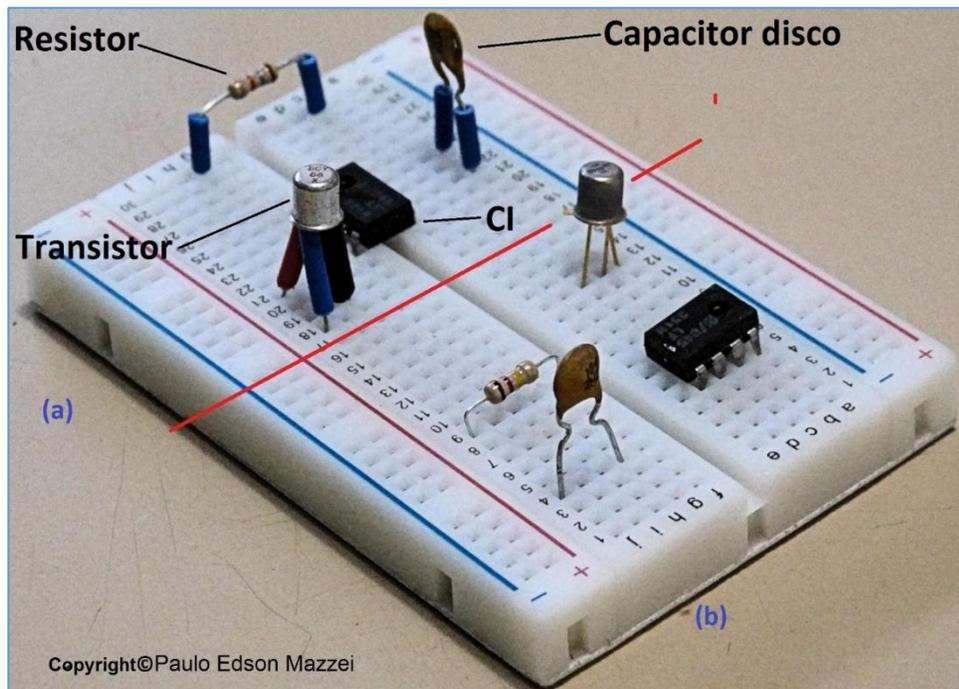

Figure 50 - Assembly of components in Protoboard. In part (a) the components were assembled correctly and (b) were assembled incorrectly.
e. See some types of component assemblies, figure 50. In part (a) of Protoboard, the components were assembled correctly. Small pieces of wire cover were placed in the terminals of the components, giving better insulation between them and changing well the appearance of the assembly, which looks more beautiful! Whim...
- . ■ - Place the test leads on the multimeter as shown in figure 50.